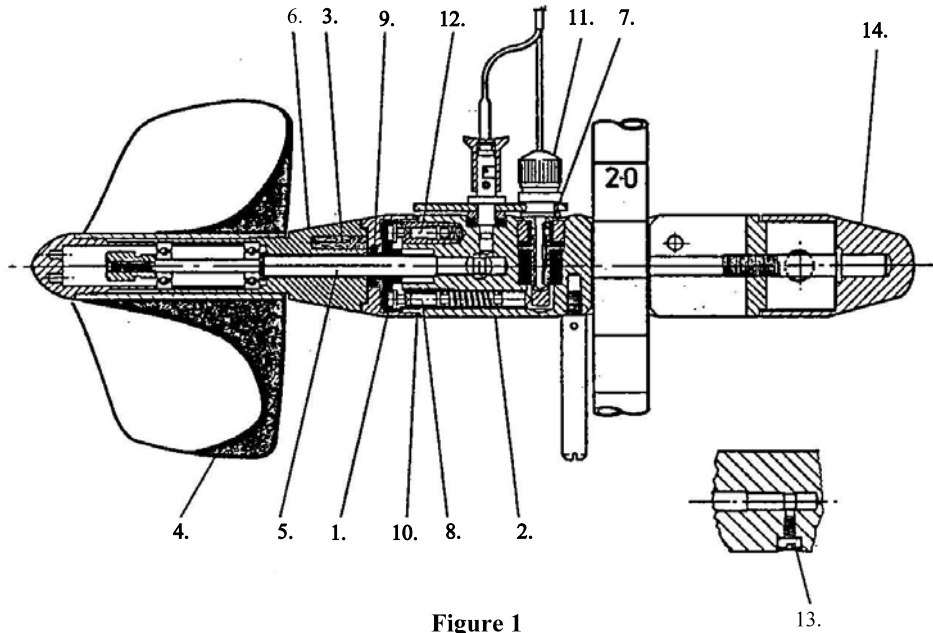

Figure 1
One impulse signal is produced per Fan revolution. As shown in figure 1 below, this signal is generated by an encapsulated reed switch (1) which resides inside the meter body (2) and a permanent magnet (3) set into the rotating Fan assembly. A cover sealed with two O-rings provides a water-tight housing for the reed switch, while gold plated contact pins ensure low-resistance signal passage.